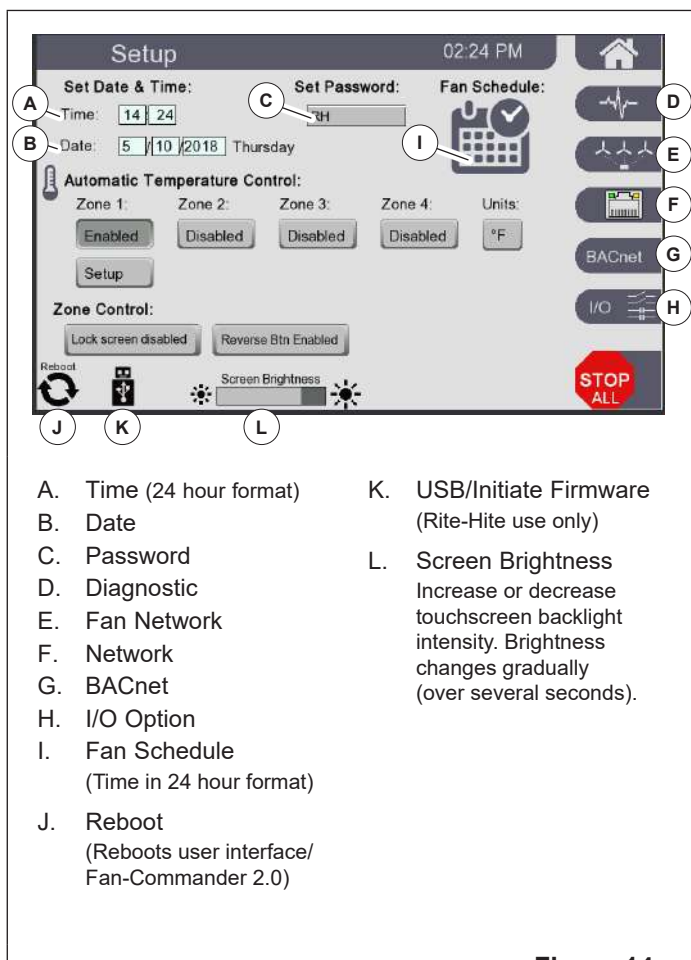

Figure 14
Touch the *Fan Schedule* button (I) (Figure 14) to schedule fans to be automatically started and stopped based on time and day of the week.
A. **Lock Screen Button:** By default, all users have access to basic fan control (speed, start/stop). This button (A) may be toggled to prevent users from accessing the Zone Control screen. To lock out all users, toggle the Lock Screen button, press the Home button (top right) (Figure 14) to return to the Zone Control screen, and press the gear button (top right) (Figure 15) to enter the Login screen (Figure 14).
Access the *Diagnostics* screen with Diagnostics button on Setup screen (D) (Figure 14).
Access the *Fan Network Setup* screen (Figure 4) with Fan Network button on Setup screen (E) (Figure 14).
Access the *Network Setup* screen with Network button on Setup screen (F) (Figure 14).
Access the *BACnet* screen with *BACnet* button on Setup screen (G) (Figure 14).